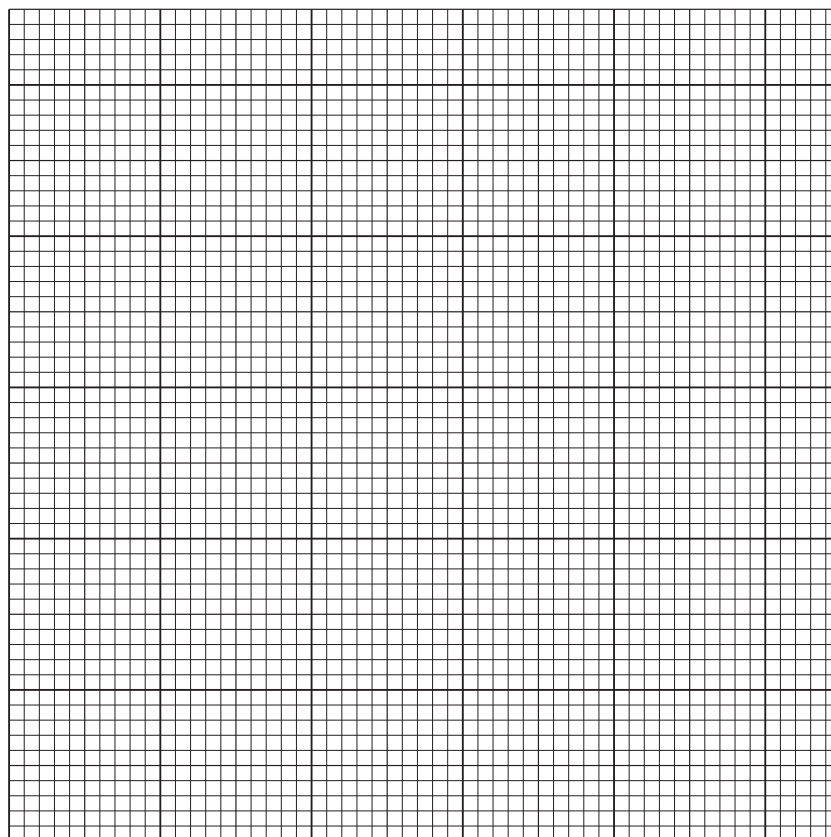

Fig. 1.3
- (i) Plot a graph of the data shown in Table 1.2 on the grid in Fig. 1.3.
- (ii) Use your graph in Fig. 1.3 to estimate the concentration of copper ions that would result in a mass of 10.0 g of yeast cells.
Suggest an explanation for the results shown in your graph in Fig. 1.3.
Use your graph in Fig. 1.3 to suggest why stainless steel was used instead of copper.